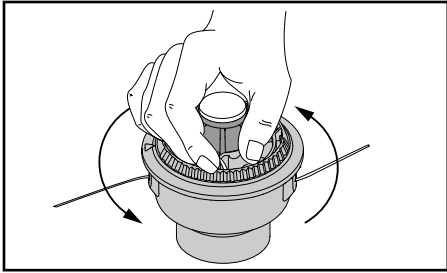

Fig. 17
6. Wind the inner reel counterclockwise until approximately four (4) inches of line remains outside of the eyelets in the outer spool (Fig. 17).